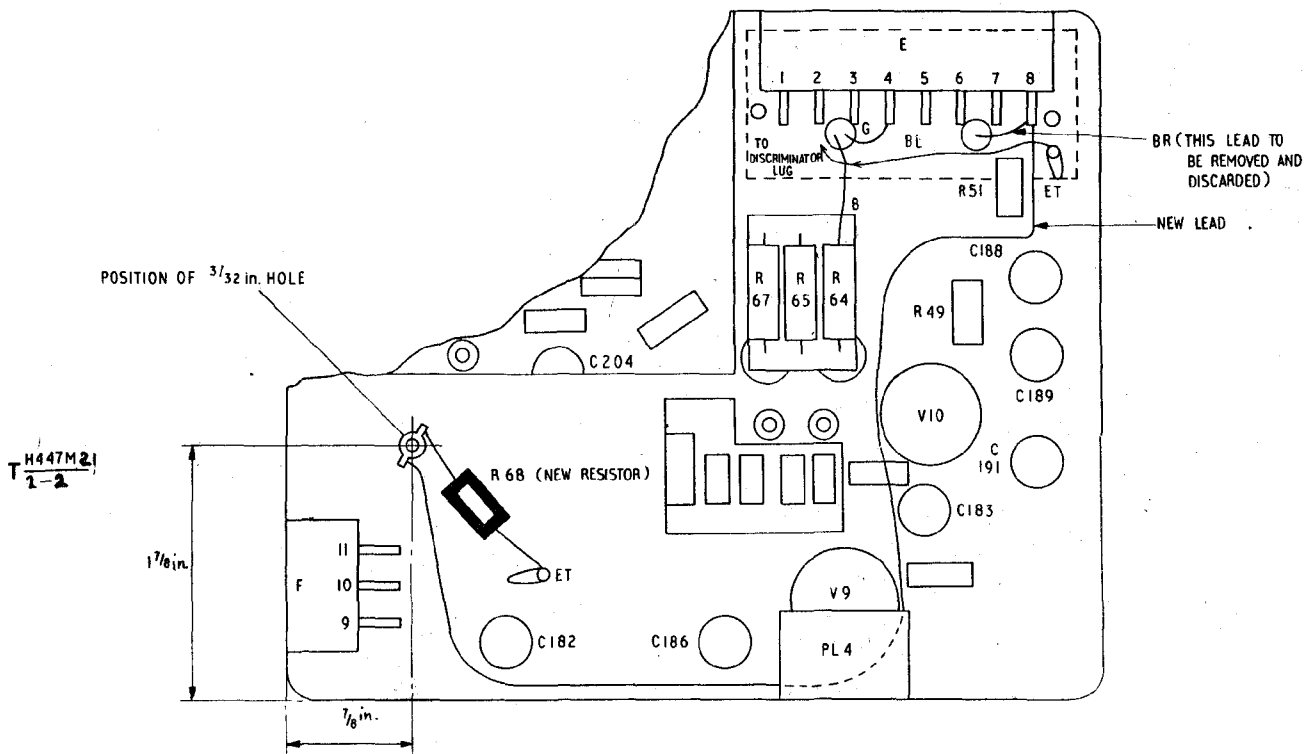

Fig 2 - Scrap layout diagram, showing location of R68 and wiring modification
m. Mark out the position (as shown in Fig 2) and drill a hole using a $\frac{3}{32}$ in. or No 42 drill. After removing any burrs etc, apply a thin coat of electrical insulating varnish (8010-99-943-3454) to the cut edges of the hole.
in Fig 2. This resistor assumes the circuit designation R68.
q. Solder one end of the 10 in. length of brown equipment wire to the terminal of the new stand-off insulator, routing this lead as indicated in Fig 2, and solder the far end to terminal 8 on terminal block E.